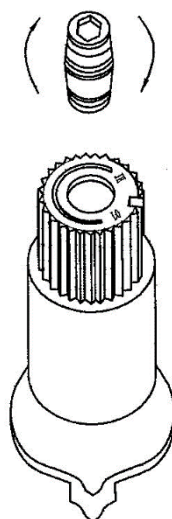

Figure 3
13. Turn the screw. See Figure 3.